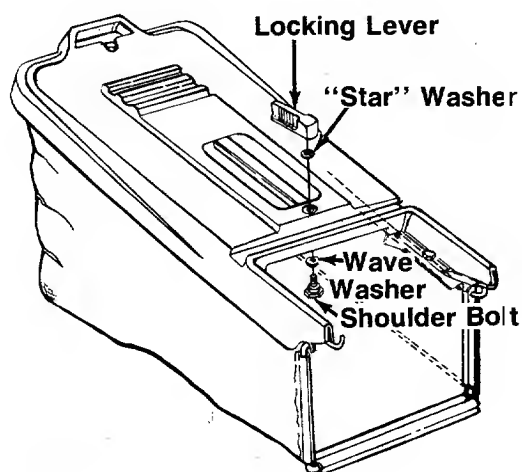

FIGURE 14.
b. Insert shoulder bolt up through hole in hardtop cover as shown in figure 14. Place "star" washer over shoulder bolt.